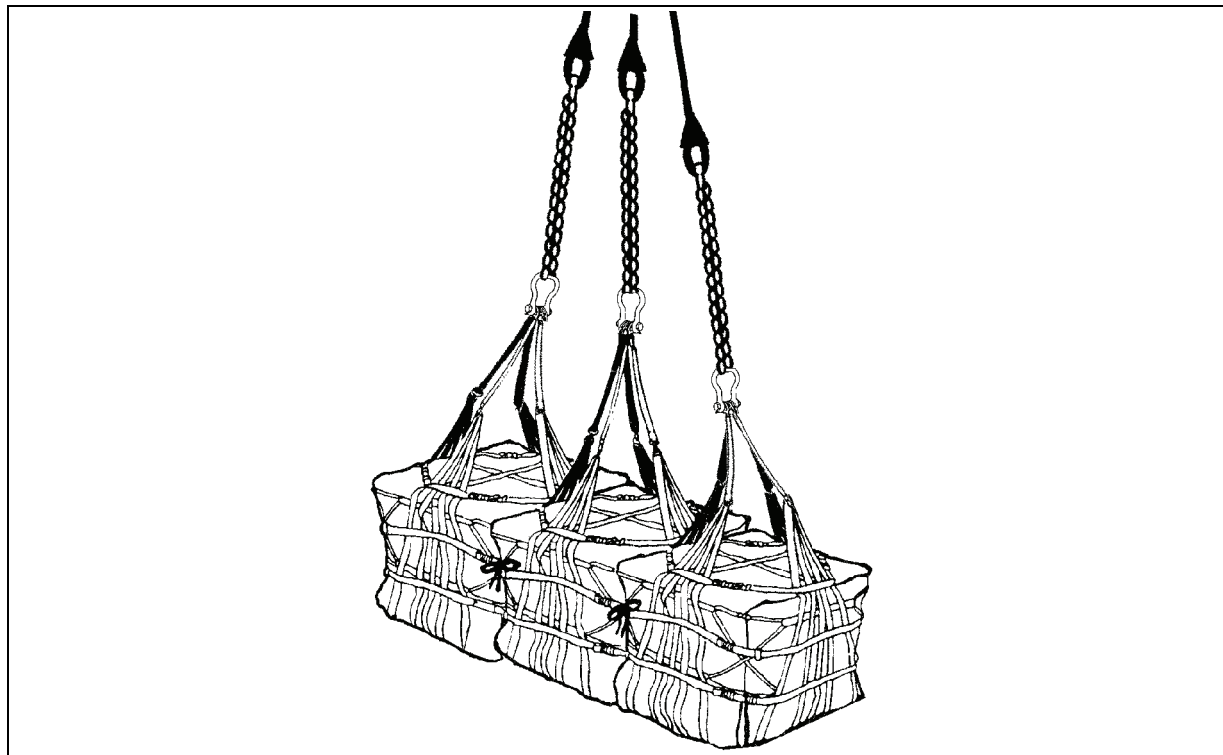

Figure 8-7. Single-point Load Consisting of Three A-22 Cargo Bags
- Preparing the Load for Pickup.** Prepare the load for pickup by looping the chain end of a sling leg through the medium clevis and inserting link number 3 in sling grabhook. Several A-22 cargo bags can be carried at the same time (Figure 8-7). Secure the bags together with a temporary tie of Type III nylon cord around the upper lateral straps of each container at the inside corner where they meet. Attach slings or sling legs to each container through the medium clevis. Adjust the sling leg lengths so that all the bags are carried at the same level. Usually link number 3 is placed in the grabhook. This will make pickup and release easier since all loads will leave the ground at the same time. To derig the A-22 cargo bag, remove the sling legs and clevis assemblies. Untie or cut the taped or tied strings. Unfasten the web straps and spread out the cover.